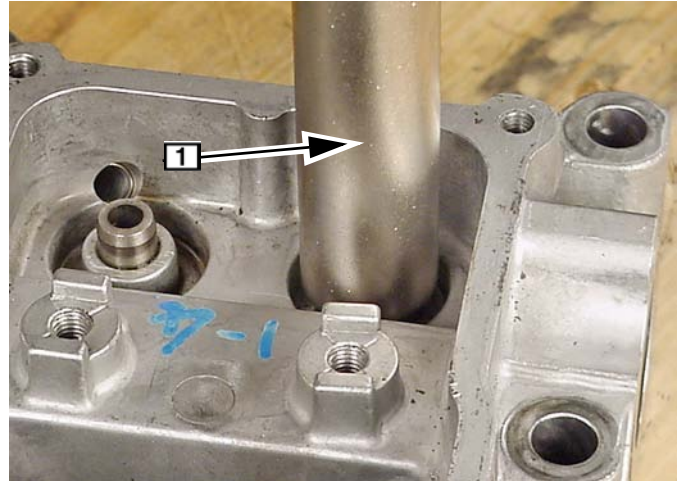

Fig. 90
1. Use valve guide driver, Tool #19416 **1** and install new intake valve stem seals, Fig. 90.